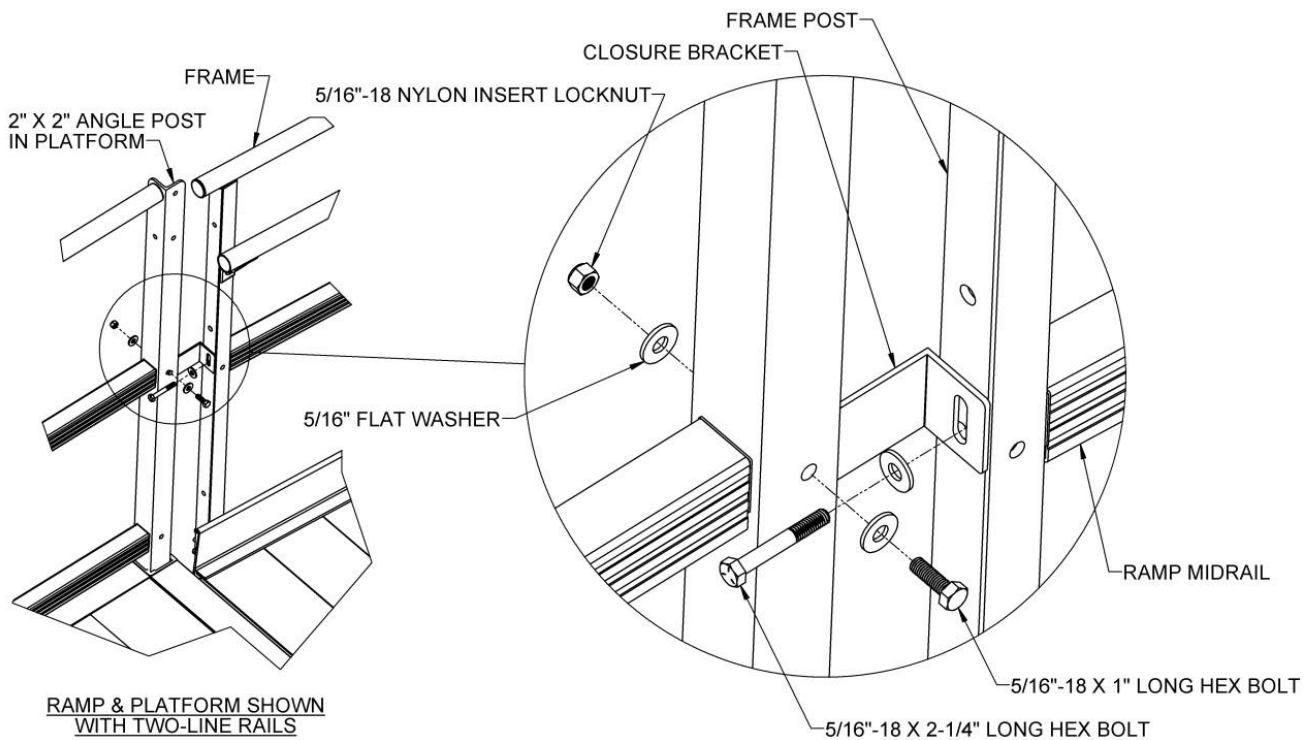

FIG. 6.4
- 6.2.1. At all locations where a Frame post is not connected to a rail, picketed guard or closure component, it must be connected to a platform 2" x 2" angle post using a closure bracket (FIG. 6.4).
- 6.2.2. If installing the closure bracket on a ramp with a two-line rail, first remove the 5/16"-18 x 2-1/4" long hex bolt and 5/16" flat washer from the midrail, then reinstall through the short leg of the bracket, the frame post, and back into the threaded insert. Orient the bracket as shown in FIG. 6.4 with the long leg contacting the platform 2" x 2" angle post.
- 6.2.3. If installing the closure bracket on a ramp with a picketed guard, install a 5/16"-18 x 2-1/4" long hex bolt through a 5/16" flat washer, the short leg of the bracket, and the hole approximately in the middle of the frame post, then secure with another 5/16" flat washer and a 5/16"-18 nylon insert locknut. Orient the bracket as shown in FIG. 6.4 with the long leg contacting the platform 2" x 2" angle post.